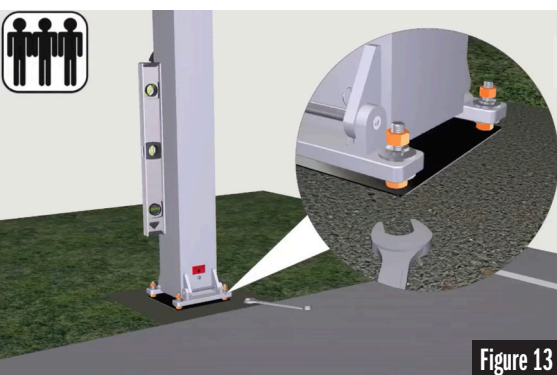

Figure 13
- Adjust the lower base nuts to ensure the Base Pole is perfectly level. See Figure 13.